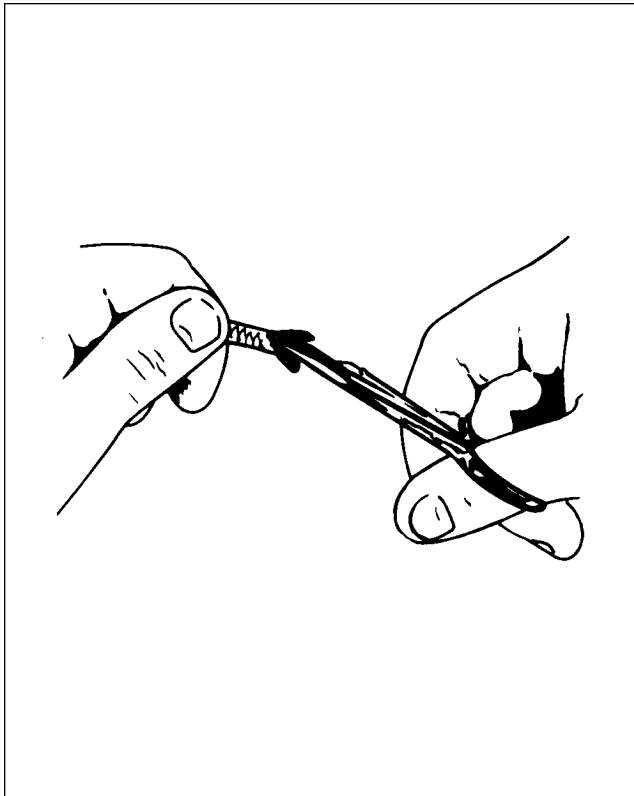

Figure 74-35. Cutting Metallic Braid From End of Lead
- H. Using electrician's scissors, carefully remove 1.250 inch of outer braid from end of lead. (Refer to Figure 74-35.)